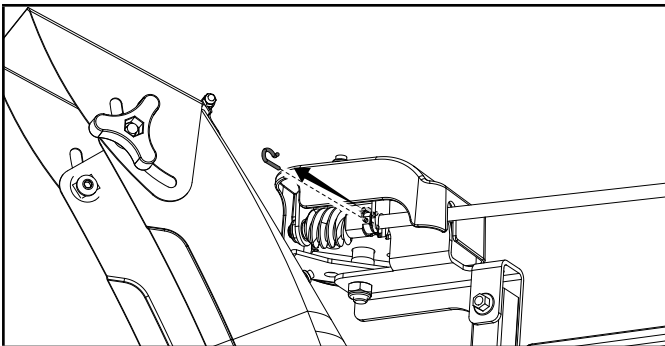

Figure 39
2. Pull out the R pin (Fig. 39).